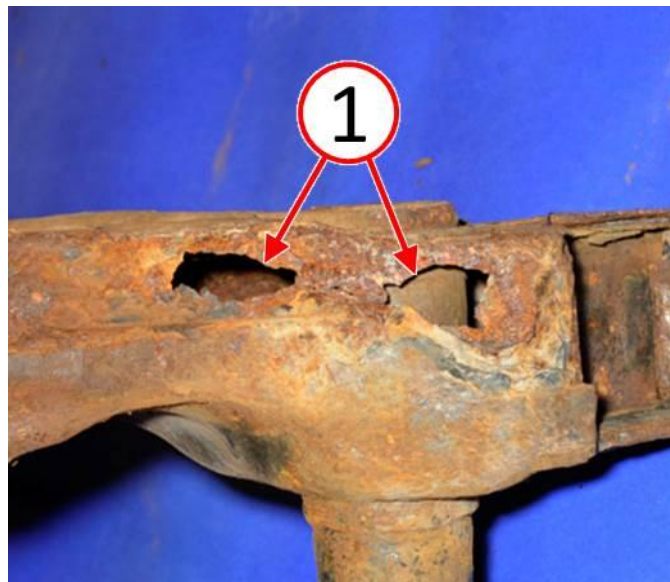

Fig. 1 Perforation - Rust Through
2. Inspect the front and rear suspension crossmembers for perforation / rust through as shown in (Fig. 1). Any perforation / rust through of suspension crossmembers regardless of hole size or area affected will require crossmember replacement.